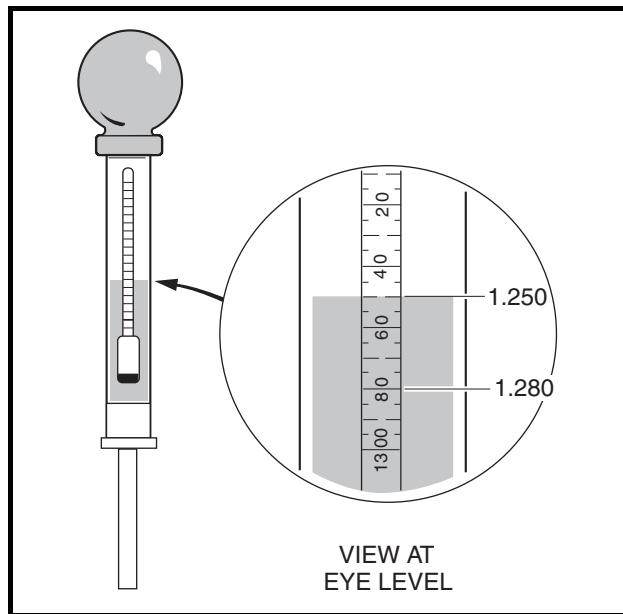

Figure 14-5 Hydrometer
5. Hold the hydrometer vertically, ensuring that the float is not touching the sides of the barrel. Hold the hydrometer at eye level and read the scale at the level of electrolyte (**Figure 14-5, Page 14-8**).